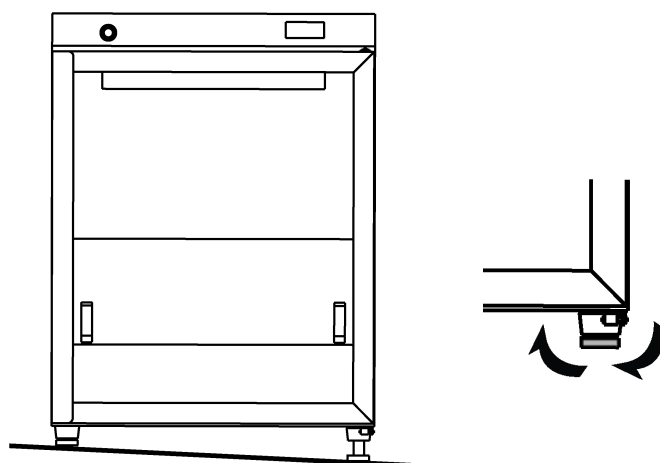

Fig 3.
- 145 Cabinets come with adjustable feet in case of uneven surfaces (Fig 3).